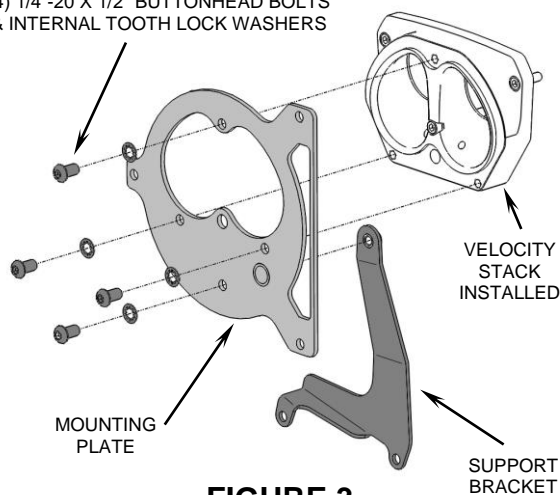

FIGURE 3
5. Position the mounting plate over the velocity stack (with the welded tube toward inside) and secure using (3) supplied 1/4"-20 x 1/2" buttonhead bolts and (3) internal tooth lock washers, finger tighten only. See Figure 3.
6. Remove the bracket which holds the bolt that secured the M6 hex nut in Step 2. Using the two allen bolts (just removed), install the supplied support bracket. Then secure the support bracket to the mounting plate using the (1) remaining 1/4" buttonhead bolt and internal tooth lock washer. See Figure 3 & 4.
7. Fully tighten the (4) 1/4"-20 buttonhead bolts (Steps 5 & 6) and the two stock allen bolts (Step 6).